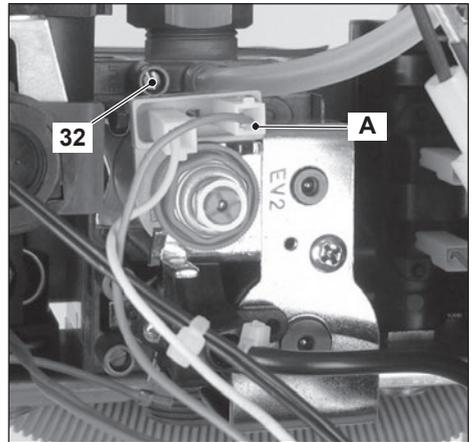

Fig. 7.8
- Loosen the internal screw 32 (Fig. 7.8) on the Outlet Pressure Test Point of the Gas Valve and connect a pressure gauge using a suitable hose.
- Disconnect the gas modulator coil by removing the electrical connector A (Fig. 7.8).
- Open the gas valve outlet pressure test point 32 (Fig. 7.8) and connect the gauge.